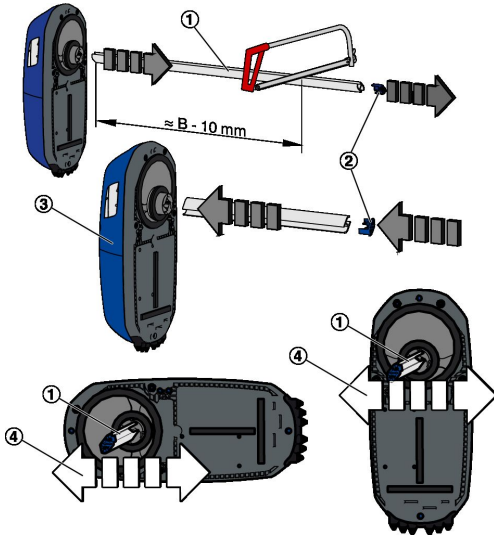

Fig. 8: Installation RM-O-M in horizontal air duct
2. ▶ For B or ØD < 600 mm: shorten air guide profile (Fig. 8) to $\approx B$ or $\text{ØD} - 10$ mm.
3. ▶ Fit the end cap (Fig. 8/2) on the shortened end of the air guide profile.